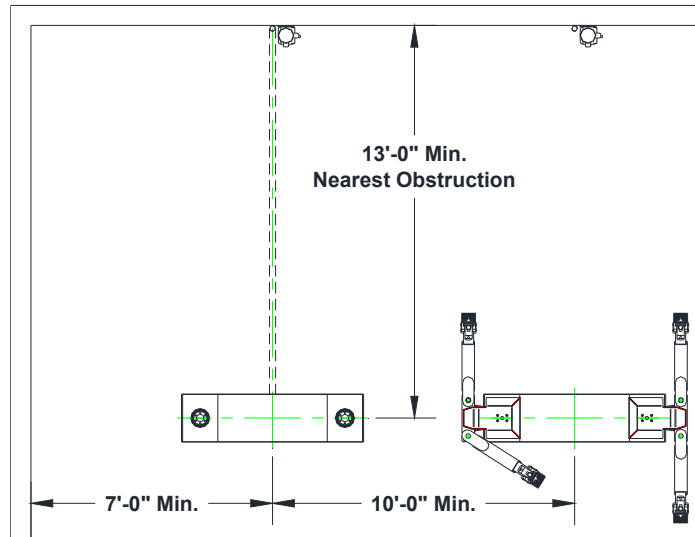

Fig. 1
Locate lift to allow plenty of working room on all sides. Allow room for workbenches at front of bay, aisles, lubrication equipment or other obstructions. Check overhead clearances. Ordinarily 12 feet is ample for automobiles. Observe the recommended minimums in Fig. 1.
2. Using a chain hoist and tripod, forklift, crane, etc. for lifting; lower the lift / containment assembly in the excavation being sure the PVC inlet hole is toward the power unit, until the top of the assembly is 1/8" to 1/4" above finished floor level and aligned with the previously determined center lines. Refer to Figures 1 and 3.
Be sure the adapters are in the lowered position and the arms are parked as seen in **Fig. 1** before attempting to drive on or off of the lift. Failure to do so may damage the adapters or vehicle.